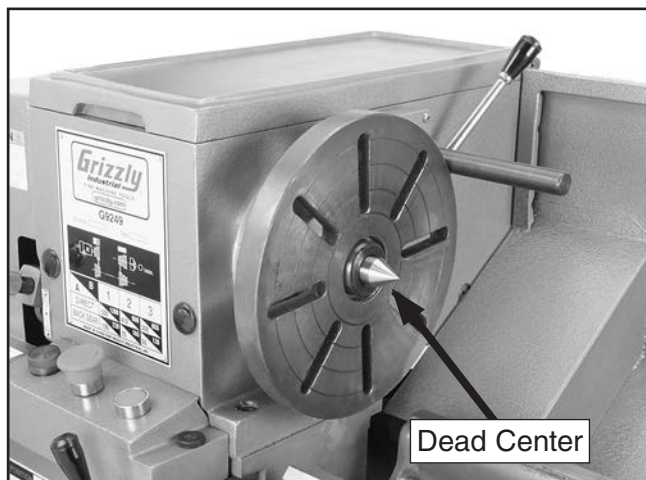

Figure 32. Dead center and faceplate installed on the spindle.
3. Mount the faceplate to the spindle (see **Figure 32**).